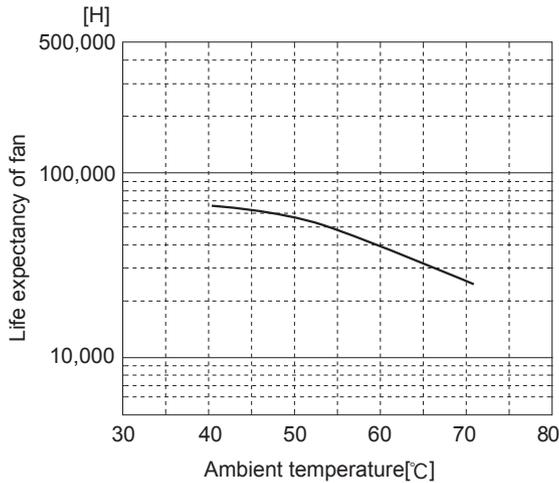

Fig.5.1 Life expectancy of fan
■ Fans should be exchanged on a regular basis because their life expectancy (R (t) = 90%) vary depending on use conditions as shown in Fig.5.1. Please see "Optional Parts" for details about fan unit.